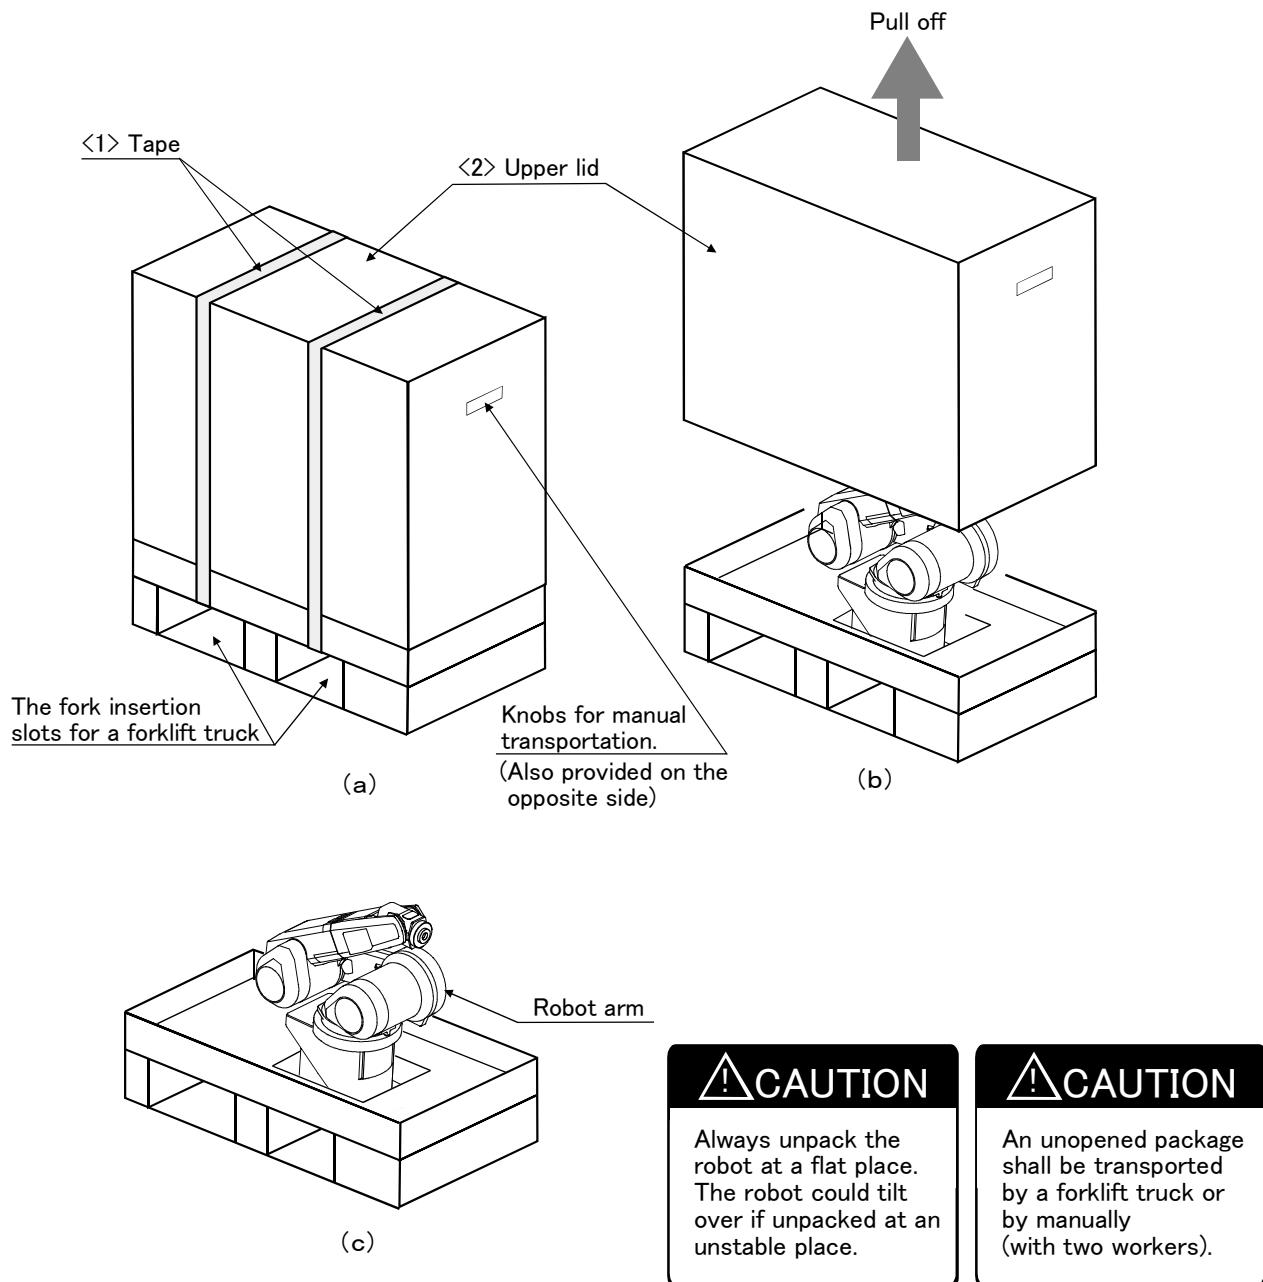

Fig.2-1 : Unpacking the robot arm
The robot is shipped from the factory in cardboard and plywood frame packing. Always refer to Fig. 2-1 and unpack the robot. Handle the robot arm according to “2.2.2 Transportation procedures\(Transportation by people\)”. The unpacking process is shown below.
- 1) Using a knife, etc., slit the tape <1> fixing the upper lid <2> of the cardboard box. (Fig. 2-1 \(a\))
- 2) Pull the upper lid <2> of the cardboard box off with both hands. (Fig. 2-1 \(b\))
- 3) Remove the hexagon socket bolts <3> (four positions) connecting the sleeper and the base unit. (Fig. 2-1 \(c\))